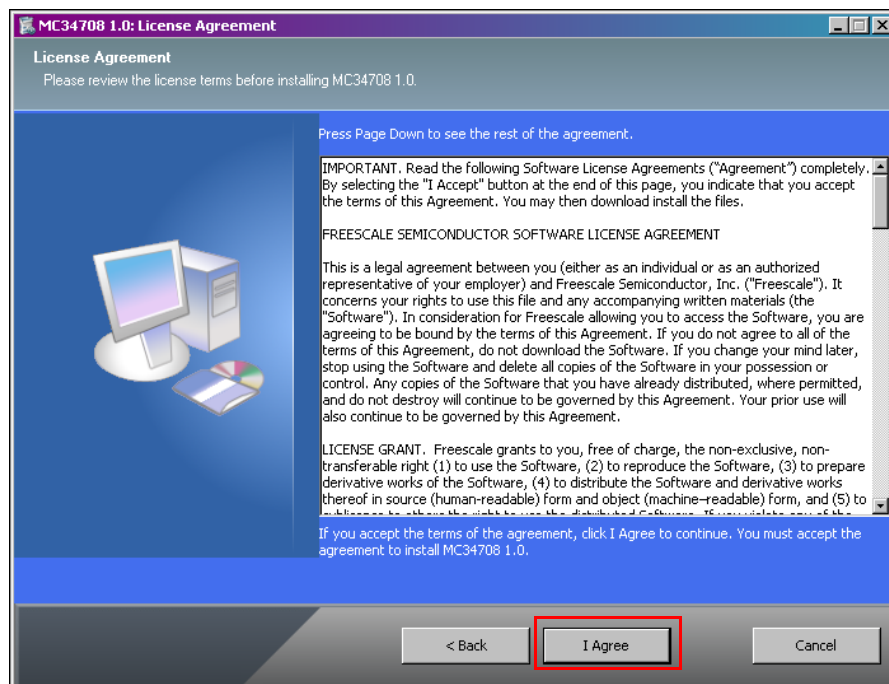

Figure 7. License Agreement
1. Double-click the executable file. The installer shall run immediately and will look as shown in Figure 7.